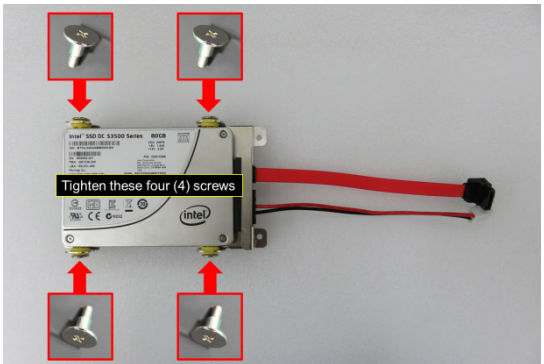

Figure 13
- 4.2.1.5 Use a Phillips screwdriver (item 1 in Table 2) to tighten the four (4) screws to secure the HDD/SSD on to the tray as shown in Figure 13.